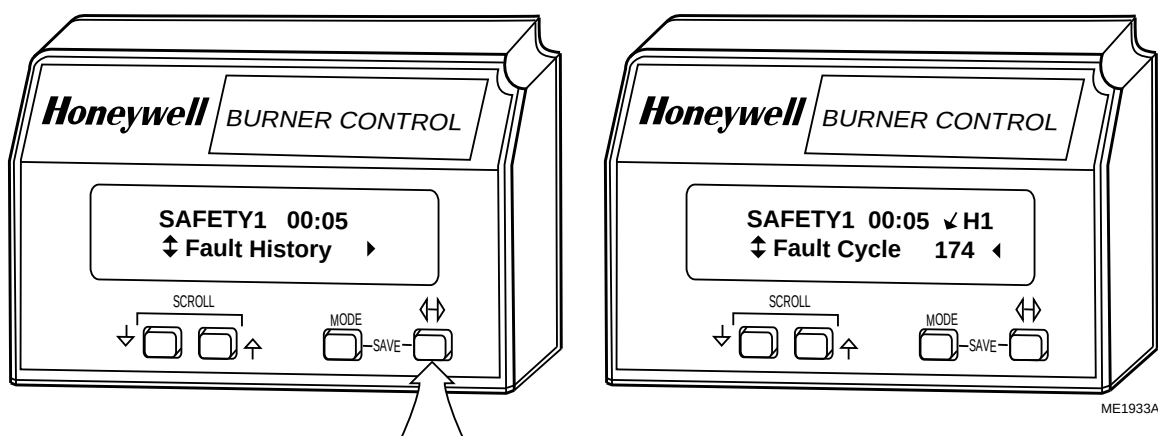

Fig. 19. (↔) Change-Level pushbutton function.
② Change-Level pushbutton (↔), see Fig. 19.